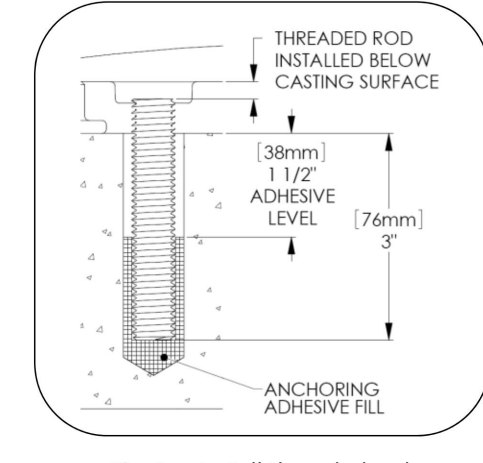

Fig. 4 - Install threaded rod
1. Thread anchor rods into bike rack as shown in Fig. 4.
2. Fill holes with adhesive to level shown in Fig. 4.